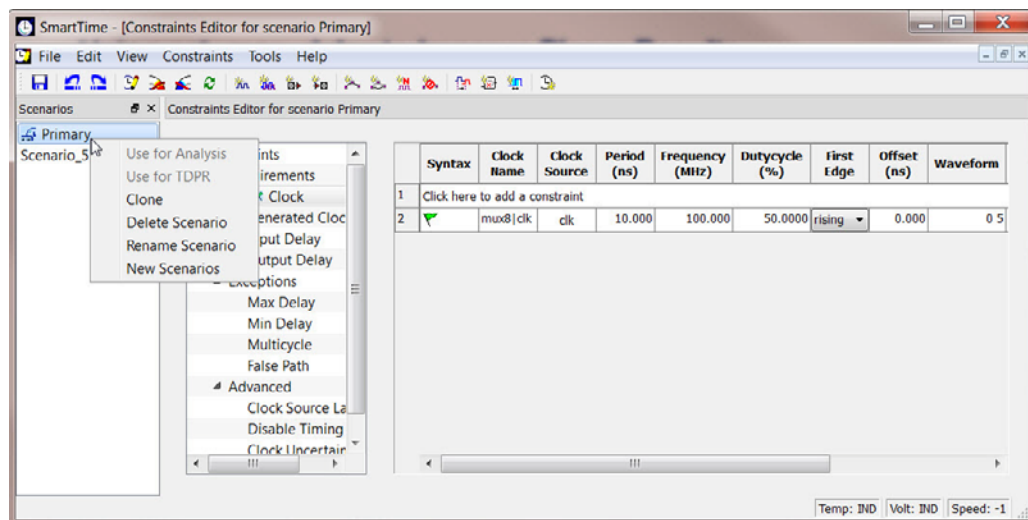

Figure 2-10 • Timing Scenario Clones
1. Clone the existing timing constraints scenario in SmartTime. From the Constraint Editor, right-click Primary scenario and choose **Clone** (Figure 2-10).